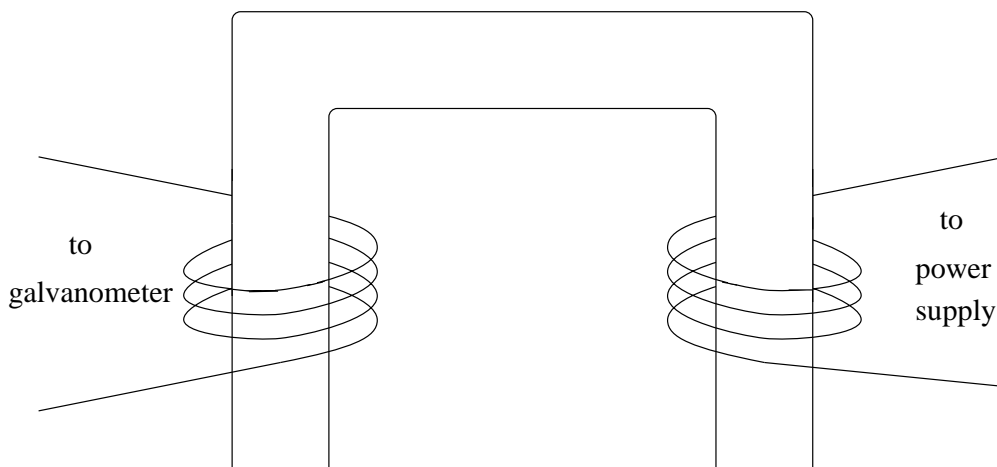

FIGURE 4
7. Set the two coils in positions as indicated in Figure 4 (without the U-shaped iron core). Close the switch and record the needle deflection. Insert the iron core, close the switch and record the needle deflection. What does this indicate to you about the path of the magnetic flux with and without the iron core?